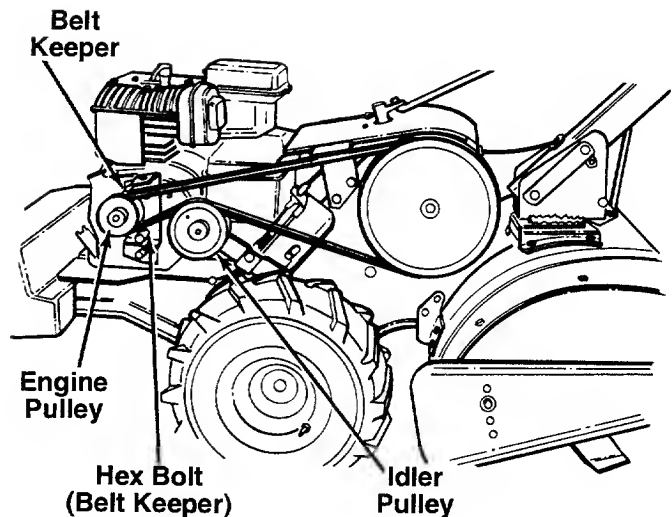

FIGURE 21.
3. Remove the hex bolt (belt keeper) located beneath the engine pulley. See figure 21.
NOTE: Upon reassembly, make certain the belt is routed over the idler pulley and inside of belt keepers by engine pulley. See figure 21.